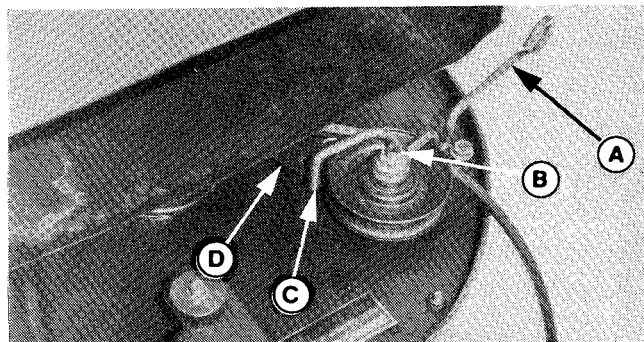
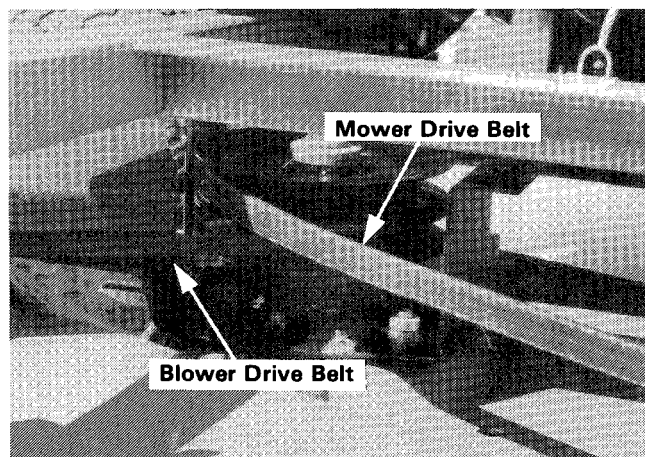

Figure 8. (Housing Viewed Upside Down)
Figure 10.
15. The belt retainer (A, figure 8) must be positioned correctly. Loosen the nut (B) and position the leg (C) so it is against the side of the idler arm (D). Then, tighten the nut (B).
17. Push the belt retainer (A, figure 8) to provide slack and install belt onto lower groove of pulley as shown in figure 10. Rotate pulley while installing belt.
19. Place the mower deck drive belt in upper groove of pulley as shown in figure 10. Engage the PTO lever to release the blade brake.